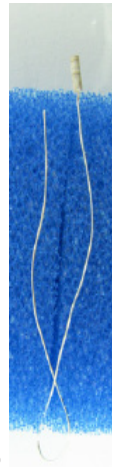

Fig. 2 – EP1.
- (1) 1 mm Ag/AgCl Electrode on 70mm wire (#EP1) (Figure 2)